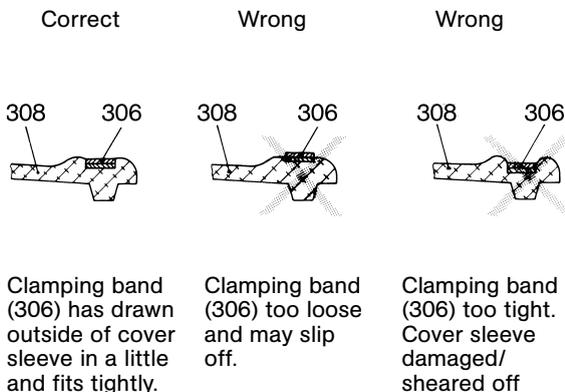

Figure 11: Clamping the clamping bands.
**Note:** The correct method of clamping the clamping bands (306) is shown in Figure 11.